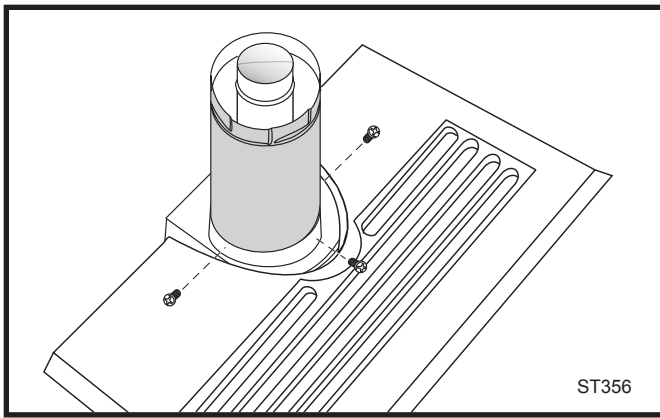

Fig. 21 Simpson Dura-Vent - install outer adapter pipe.
- 3. Install the Outer Adapter Pipe.** Apply a 1/4" bead of cement around the outside surface, about one inch from the crimped end. (Fig. 21) Orient the vertical seam to the rear, and insert the crimped end of the outer pipe into the flue collar. Fasten with three (3) sheet metal screws provided.